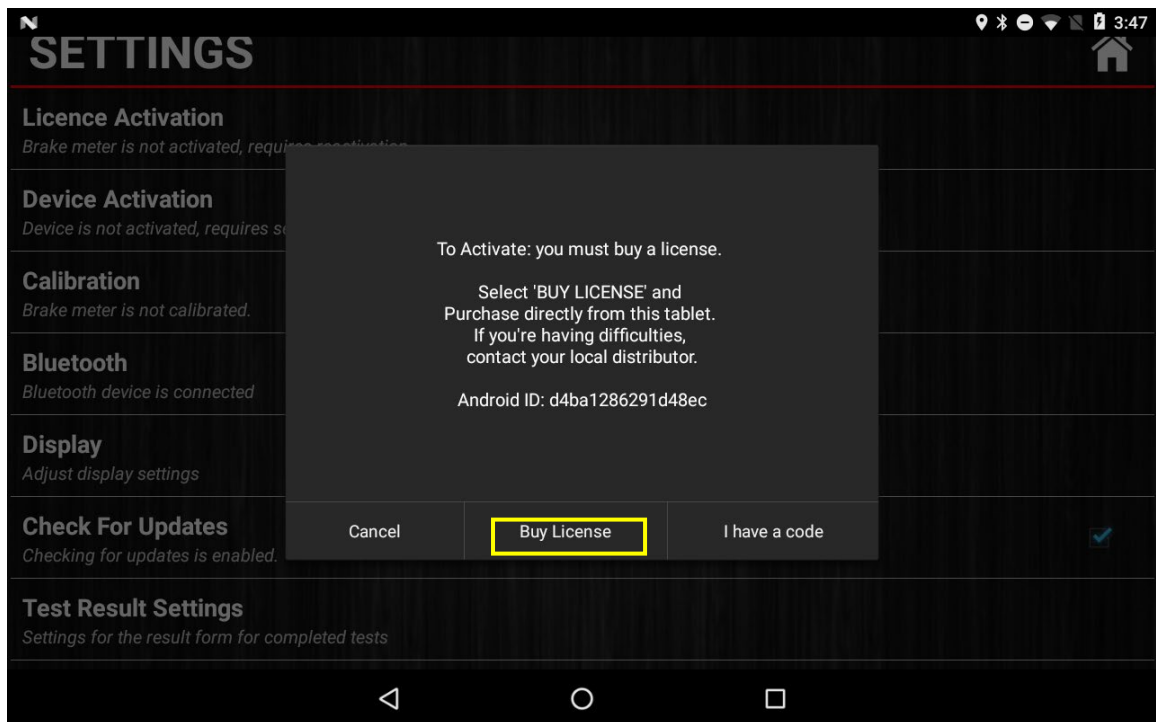

Figure 7
Step 1: Select Buy License from the prompt in Figure 7.